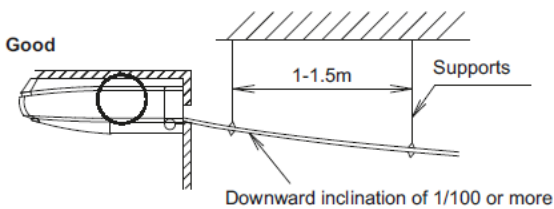
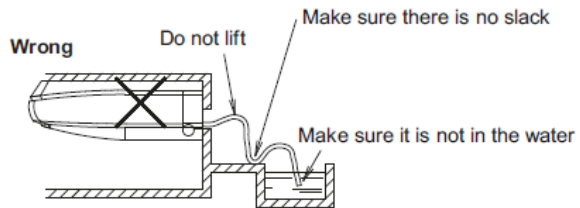

Fig. 22
Fig. 23
- Install the drain piping as short as possible with downward inclination of 1/100 or more by avoiding air stagnation. (Refer to Fig. 22 and Fig. 23)
- Install supports at a distance of 1 to 1.5m so that the piping may not deflect. (R.To Fig. 22)